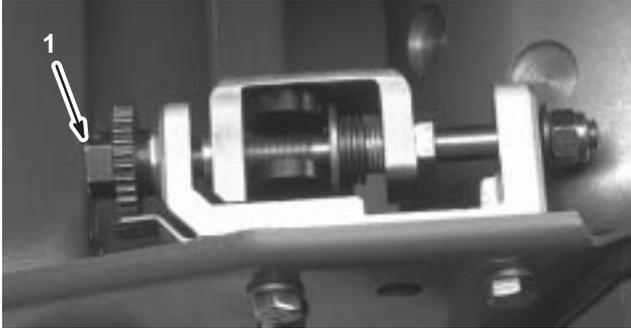
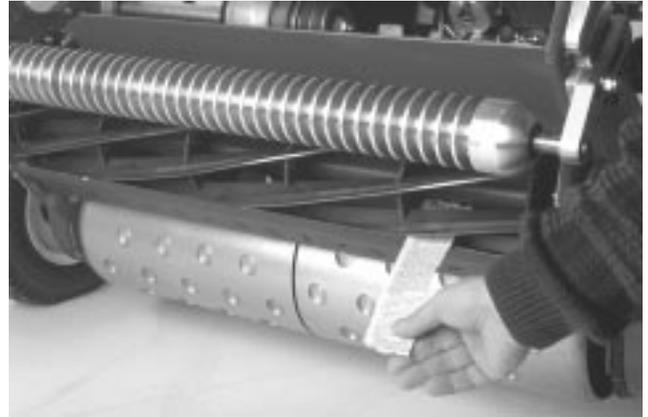

Figure 11
Figure 13
2. Ensure that the reel contact is removed by turning the bedbar adjusting screws counterclockwise (Fig. 11 or 12).
4. On one end of the front side of the reel, insert a long strip of newspaper between the reel and bedknife (Fig. 13). While slowly rotating the reel forward, turn the bedbar adjusting screw clockwise (on the same end of reel, one click at a time, until the paper is pinched lightly, when inserted from the front, parallel to the bedknife, which results in a slight drag when paper is pulled (Fig. 11 or 12).
6. After the adjustment is accomplished, check to see if the reel can pinch paper when inserted from the front and cut paper when inserted at a right angle to the bedknife (Fig. 13). It should be possible to cut paper with minimum contact between the bedknife and the reel blades. Should excessive reel drag be evident (more than 7 in.-lb. (0.79 N·m)), either backlap or grind the cutting unit to achieve the sharp edges needed for precision cutting; refer to the Toro reel sharpening manual.